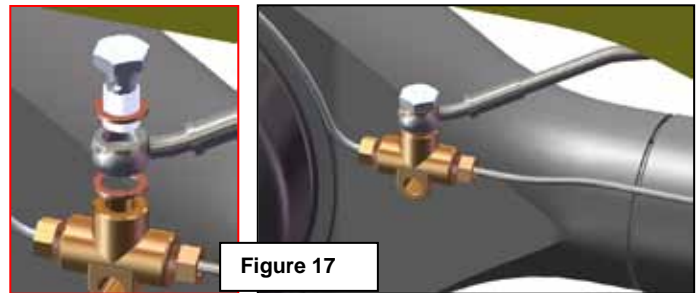

Figure 17
- c. Install banjo end of 24.75" braided brake line to tee fitting on rear differential as shown using supplied hardware. Figure 17. Retighten line at the residual valve.